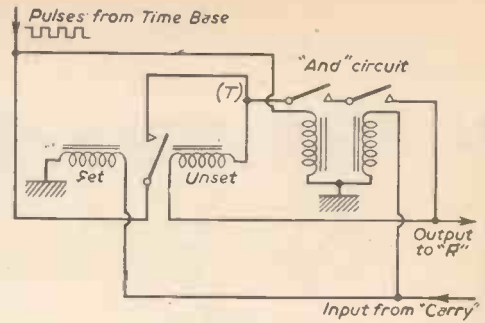

Fig. 8.—Delay circuit.
We can now see the need for the time base, and that is to tell the delay device when to transmit the stored number during the next pulse period. Fig. 8 shows the circuit for the delay which is a modified trigger circuit together with an AND circuit. When the adder sends out an x pulse, the trigger (T) is set. At the next time base pulse the trigger is unset, and a pulse goes out to the (R) terminal. If, however, there is another x pulse immediately following the above sequence which is to be stored in the delay, then the trigger is not unset by the time base as the AND circuit short circuits the unset coil. This leaves the delay storing another x until the next pulse period.